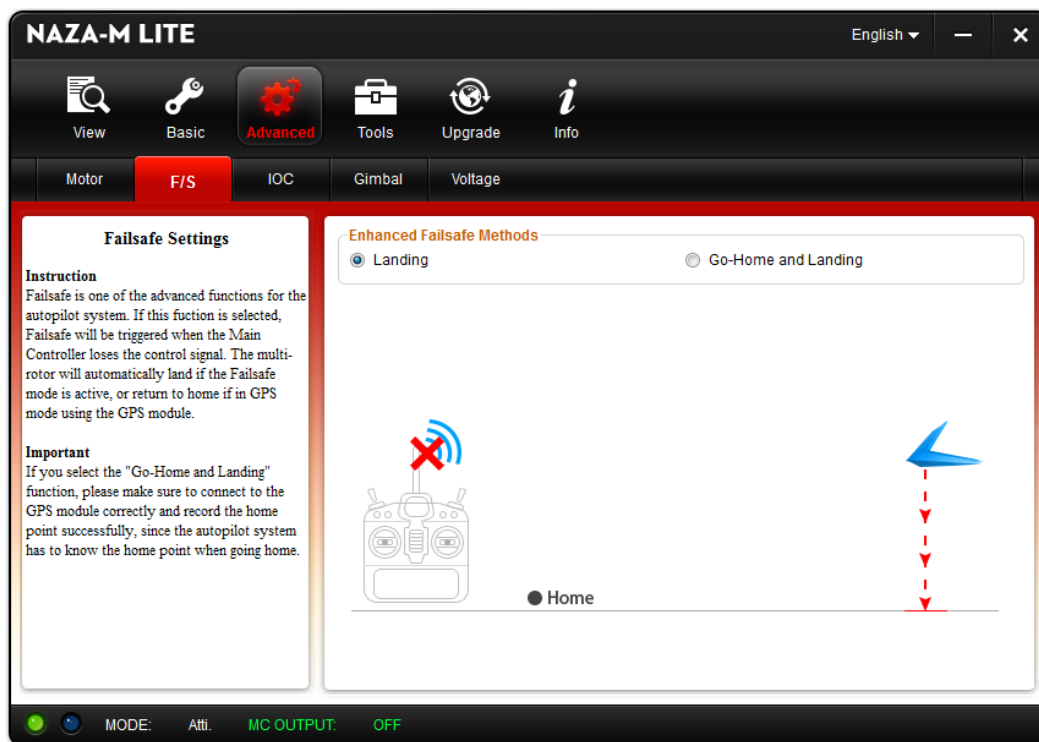

Figure 12: "F/S" page.
- **Enhanced Failsafe Methods** helps to reduce chances of crashing (see Figure 12).